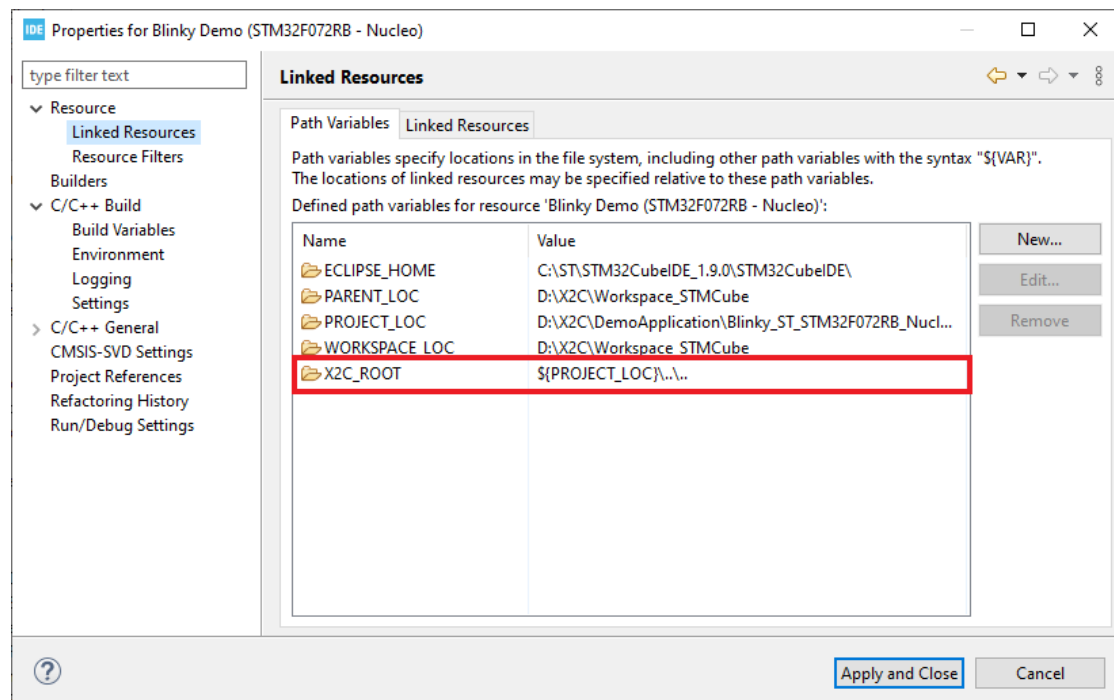
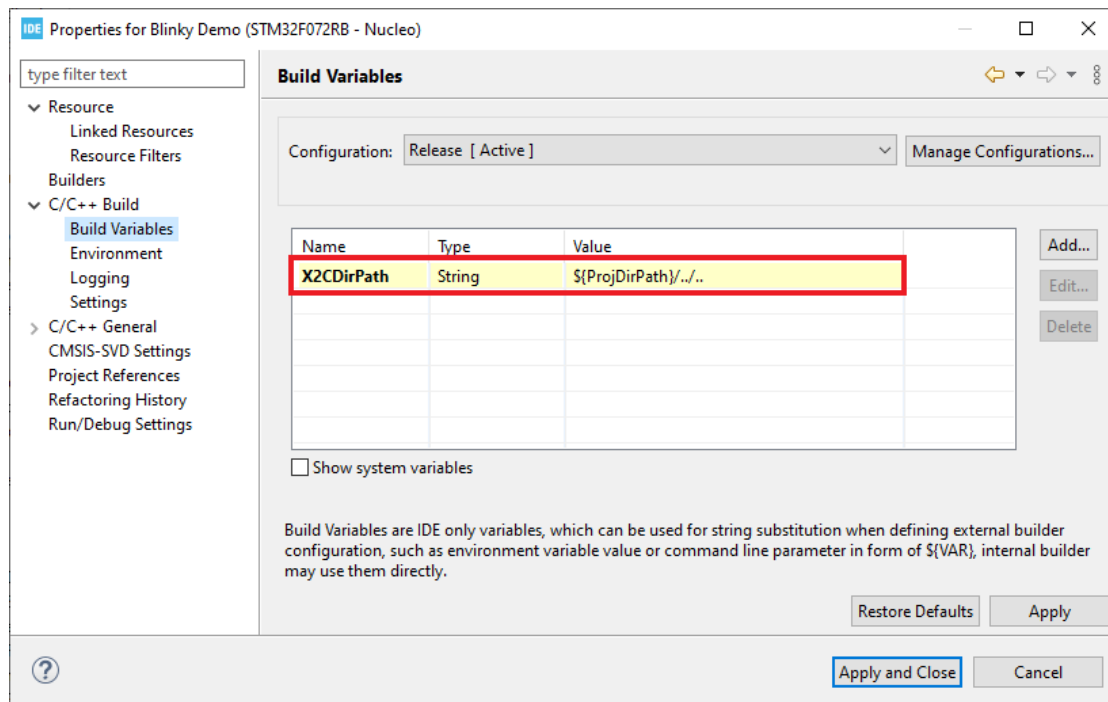

Figure 6: *STM32CubeIDE* resources settings
Figure 7: STM32CubeIDE build variables setting
3. In the *STM32CubeIDE* file structure of the *Blinky* demo project are two virtual folders *X2C-Blocks* and *X2C-Core*, which are linked relatively to the *X2C* directory. If the *Blinky* demo project is copied/moved to a different location, the resource property *X2C_ROOT* as seen in Figure 6 and the build variable *X2CDirPath* as seen in Figure 7 have to be adapted.